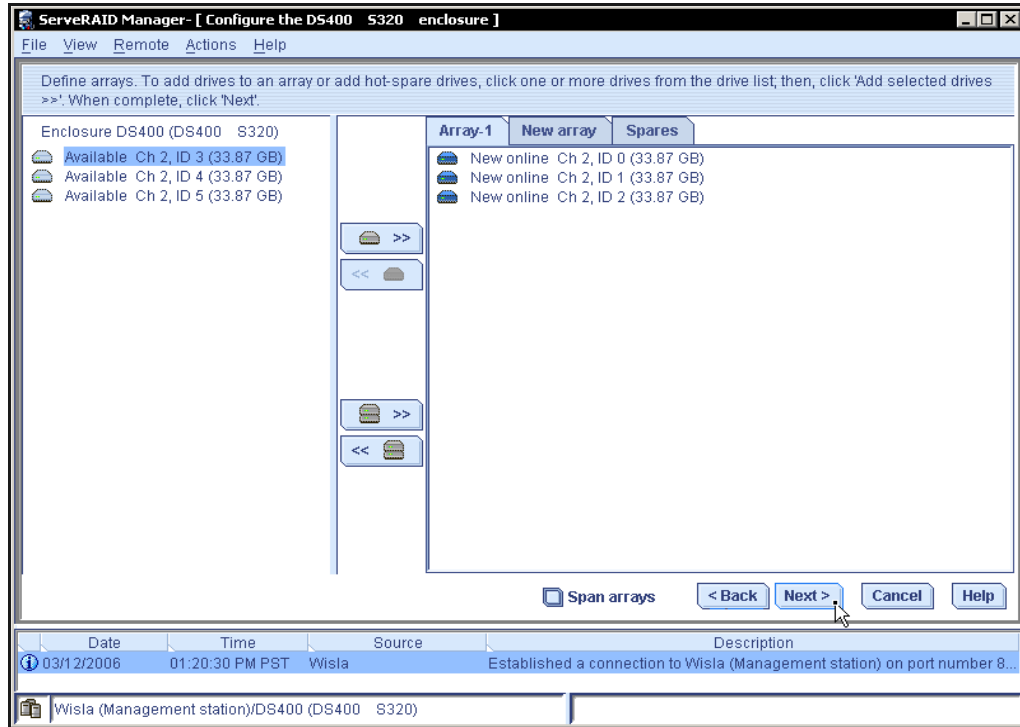

Figure 40 Drive selection continued
- After the desired drives are selected, check the box for **Span arrays** if applicable, and click **Next** as shown in Figure 40.